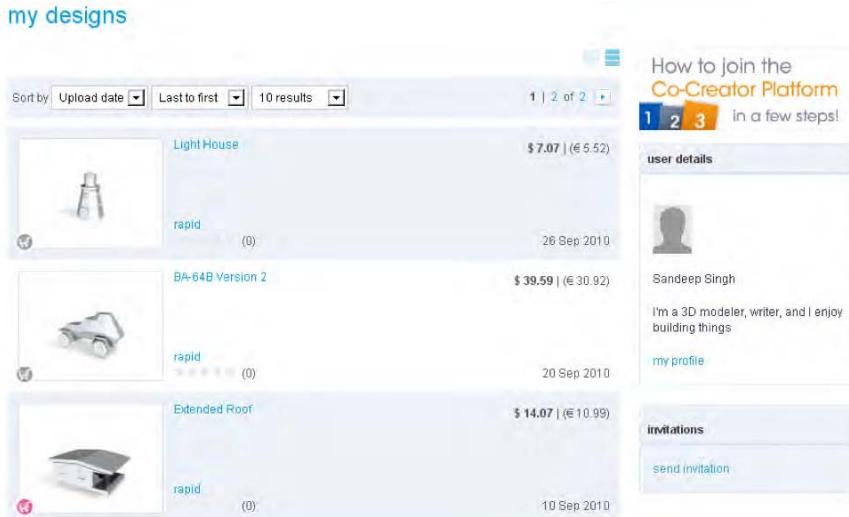

Figure 9–3. Your Shapeways Shop
- Clicking the Save button creates your Shapeways Shop, as you can see in Figure 9–3. The Shapeways Shop does not look that different from the “my designs” page, but there are few extra things you can do now when you open a shop.